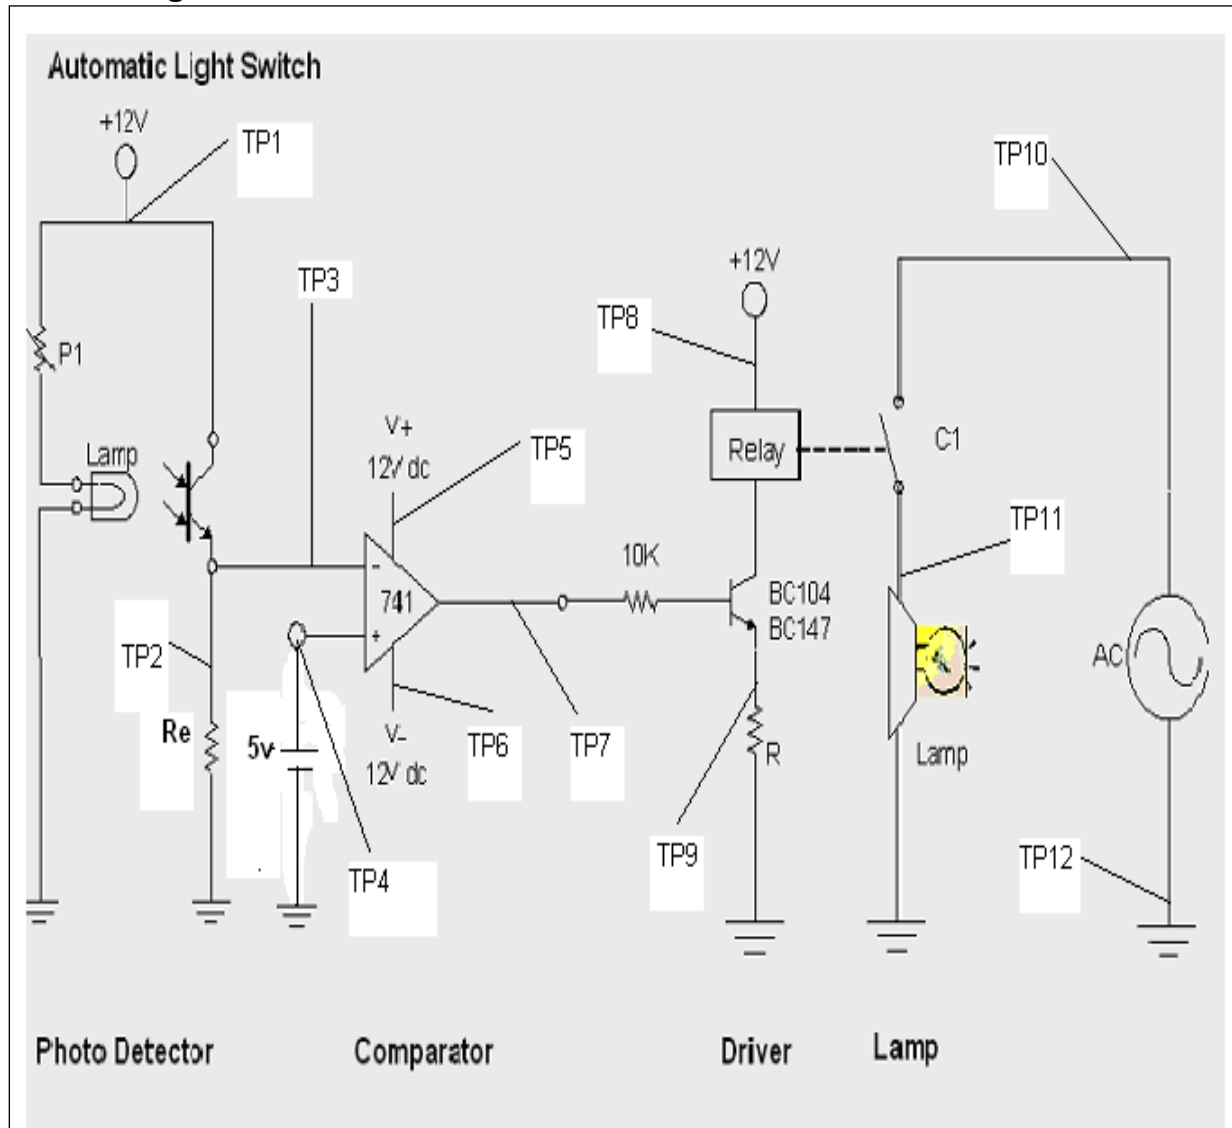

Fig: 12.2
1. Assemble the circuit on the bread Board as shown in figure 12.2